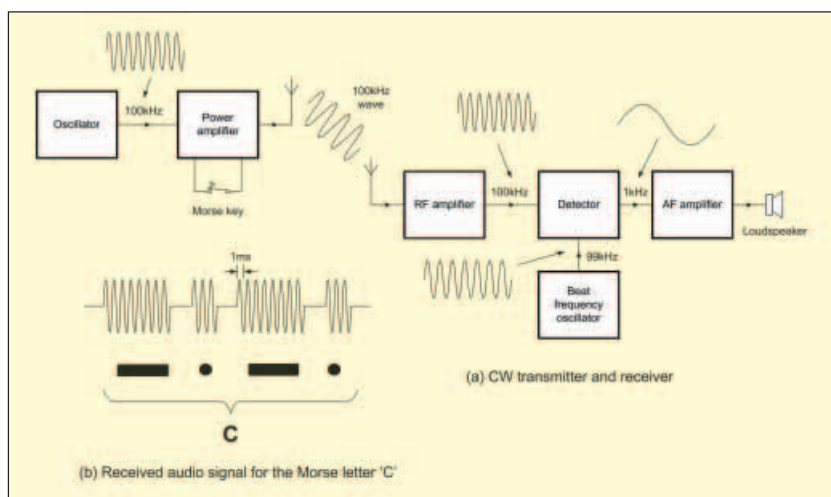

Fig.11.4. A simple CW radio communication system
Fig.11.4 shows a simple radio communication system comprising a Transmitter and Receiver for use with continuous wave (CW) signals. Communication is achieved by simply switching (or “keying”) the radio frequency signal on and off using Morse code to convey information.